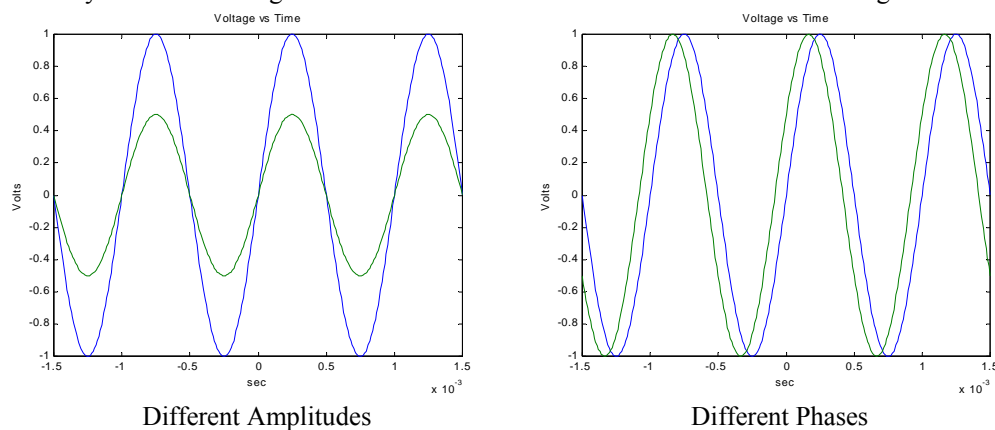

Figure D-3
Two Channel Scopes: A dual-beam oscilloscope provides for amplification and display of two signals at the same time, thereby permitting direct comparison of the signals on the CRT screen. It is a very good idea to always use both inputs, so that you can display both the signal into and out of the device you are studying. It is common to put the input signal (coming directly from the source device) on one channel and the output signal (a signal you want to observe in your circuit) on the other channel. This way you can observe what your circuit does to the input by comparing the input signal to the signal generated by the circuit. When we compare two signals we generally look at two things. The first is the change in amplitude between the input and the output. You observed this when you built the voltage divider in part B. The output can also be shifted in phase relative to the input. This means that two sinusoids are not synchronized along the time axis. These two conditions are illustrated in figure D-3.
- You should see two nearly identical sine waves once you hook up both function generators—one slightly out of phase with the other. Remember that the sine wave is defined by three parameters – amplitude, frequency and phase. Check to see that the voltage scale for both channels is the same. (Use the Volts/Div knob to adjust this if needed.) If the amplitudes are not the same, the sine waves will not be the same amplitude. If the phases are not the same, the sine waves will not line up horizontally. If the frequencies are not the same, the wave the oscilloscope is triggered on will be stationary, while the other wave will move (slowly we hope) to the left or right. Figure D-3 shows signals that vary in amplitude and frequency.